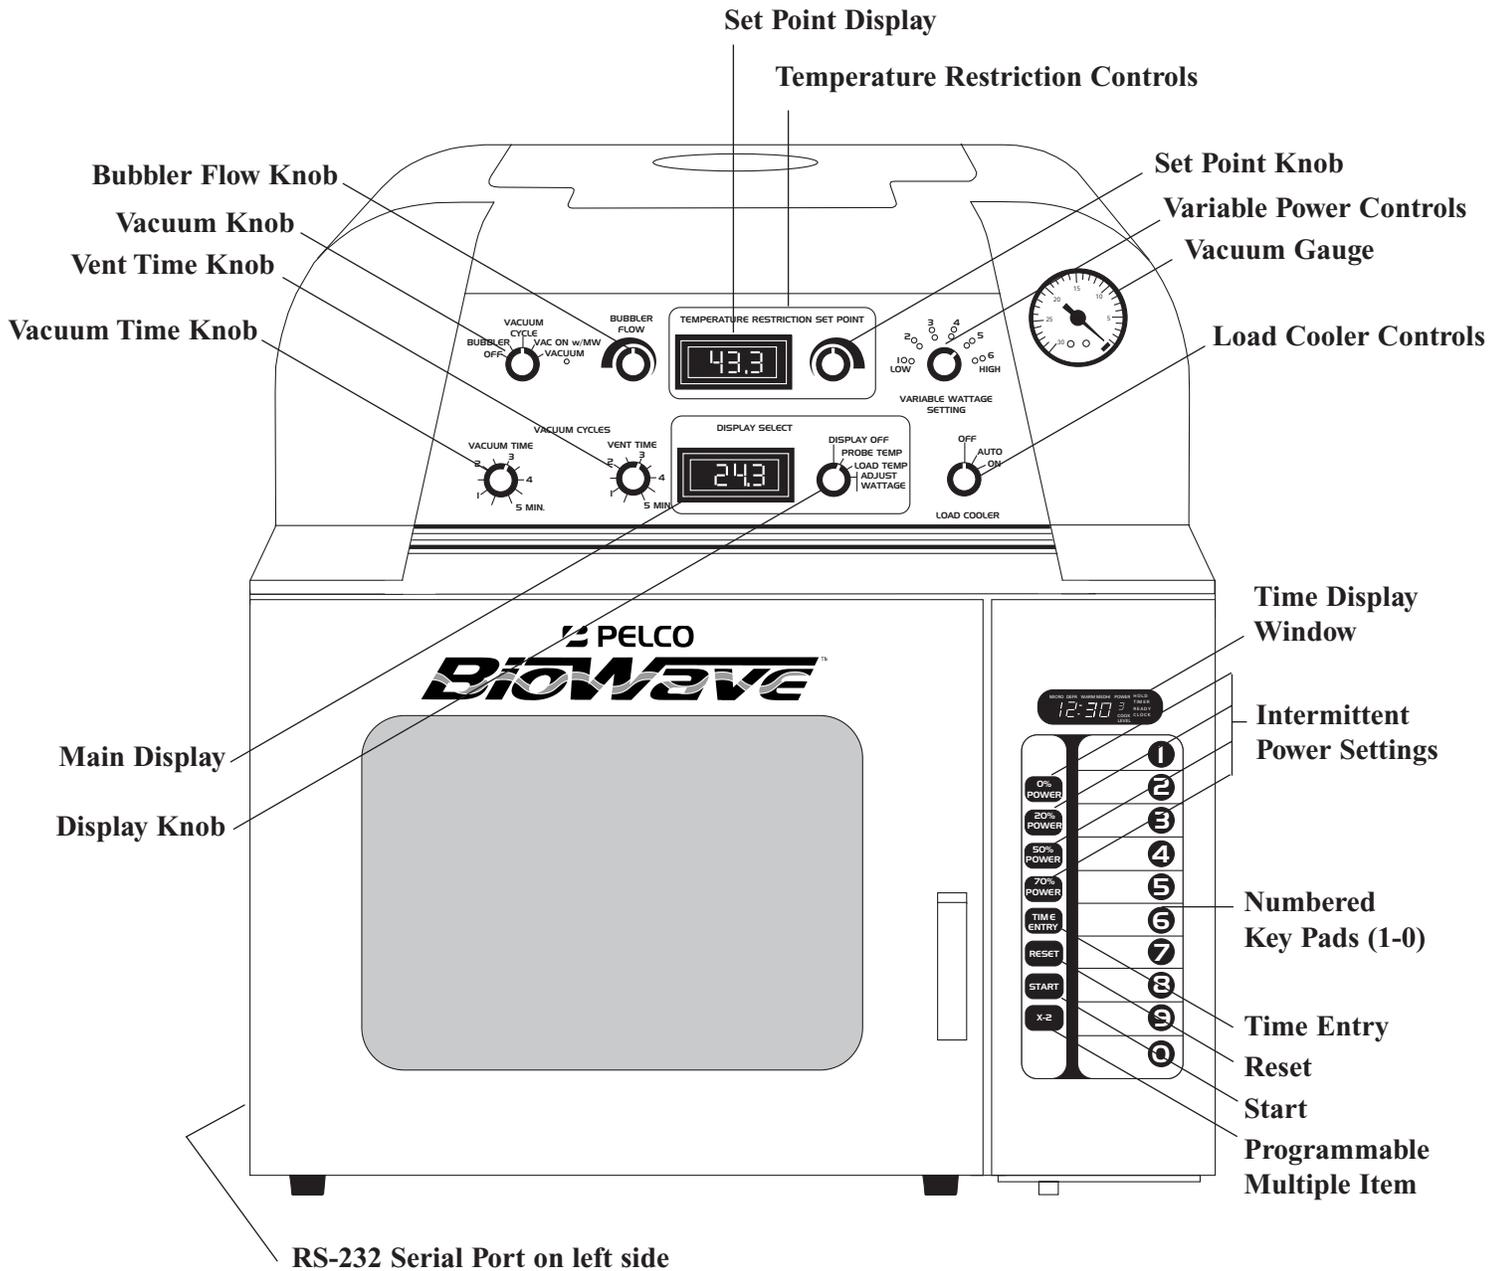

Figure 2 Microwave System, Front View
- **Variable Power Controls.** The 6 position ”Variable Wattage Setting” knob, shown below and in Figure 2, selects the desired wattage from the following settings:
- **Temperature Restriction Controls.** The “TEMPERATURE RESTRICTION SET POINT”, shown to the right and in Fig. 2, controls microwave output when the temperature measured by the temperature probe exceeds that set on the Set Point Display. This control is achieved by automatically turning off the magnetron when the set point is reached and turning it back on when the temperature measured by the probe falls below the set point. The temperature restriction is set with the Set Point Knob. Temperature can be maintained within 0.5°C of the set temperature when using lower wattages (settings 1-3) or when using solutions that heat slowly to moderately. Solutions that heat vigorously, especially when higher wattages (settings 4-6) are used, can be maintained very close ($\pm 2^\circ\text{C}$) to the desired temperature maximum by setting the restriction at an appropriate point below the required maximum. The use of this set temperature does not conflict with either intermittent power setting or variable power levels that you might wish to use.
• **Load Cooler Controls.** The operation of the Load Cooler circulating pump is controlled by the three position “Load Cooler” knob, shown to the left and in Figure 2. In the OFF position the pump DOES NOT recirculate water within the microwave chamber. In the AUTO position, water circulation is synchronized with the microwave’s operation. The pump will remain on after a microwave run until the water load temperature has fallen below 30°C. In the ON position the circulating pump is ALWAYS running. The AUTO position is the recommended operation mode. Note that the fan for the Load Cooler is always on at low speed and turns to high speed whenever the load temperature exceeds 30°C. Before starting the Load Cooler make sure both internal hoses are connected properly. Place both hoses inside the chamber into a beaker filled with water (400ml of water in a 600ml beaker). Turn the Load Cooler switch to ON. Within several seconds the pump should begin quietly pumping water. Lift the “Load In” marked tube slightly above the water surface. Water should be flowing continuously out of this tube and the pump should be operating quietly. **Note:** The load cooler pump is self-priming. The PELCO ColdSpot® can now be connected to the system. See Appendix A, page 22 for instructions on the connection and use of the PELCO ColdSpot®.
• **Air Bubbler and Vacuum Controls.** The bubbler or vacuum features are selected using the five position knob shown to the left and in Figure 2. With the “VACUUM” knob in the “OFF” position neither bubbler nor vacuum is activated. With the “VACUUM” knob in the “BUBBLER” position, the vacuum is off and air is metered through the air bubbler line inside the microwave chamber.
The air bubbler control designated “BUBBLER FLOW”, shown above and in Figure 2, is a needle valve that accurately meters the air. As with all needle valves, you must be careful not to over tighten the valve to avoid damaging it. Air flow can be accurately regulated from full pressure to a single bubble every few seconds. Turning the valve counterclockwise increases the flow. Several different bubbler attachments are available depending on your particular application.
The vacuum system has three modes of operation. With the “VACUUM” knob in the “VACUUM” position, the bubbler is off and the vacuum is on continuously. The vacuum is drawn via the vacuum hose inside the microwave chamber (Fig. 7). With the “VACUUM” knob in either the “VAC ON w/MW” or “VACUUM CYCLE” positions, vacuum is synchronized with the microwave’s operation. The vacuum cycle switches on the vacuum for a preset time and then vents the line for a preset time. The vacuum on time can be set from 30 seconds to 5 minutes using the “VACUUM TIME” knob shown above and in Figure 2. The vacuum vent time can be set from 30 seconds to 5 minutes using the “VENT TIME” knob shown above and in Figure 2. The vacuum level can be read on the vacuum gauge to the right of the control panel (see to left). The LED below the “VACUUM” setting comes on when the vacuum pump is pumping.